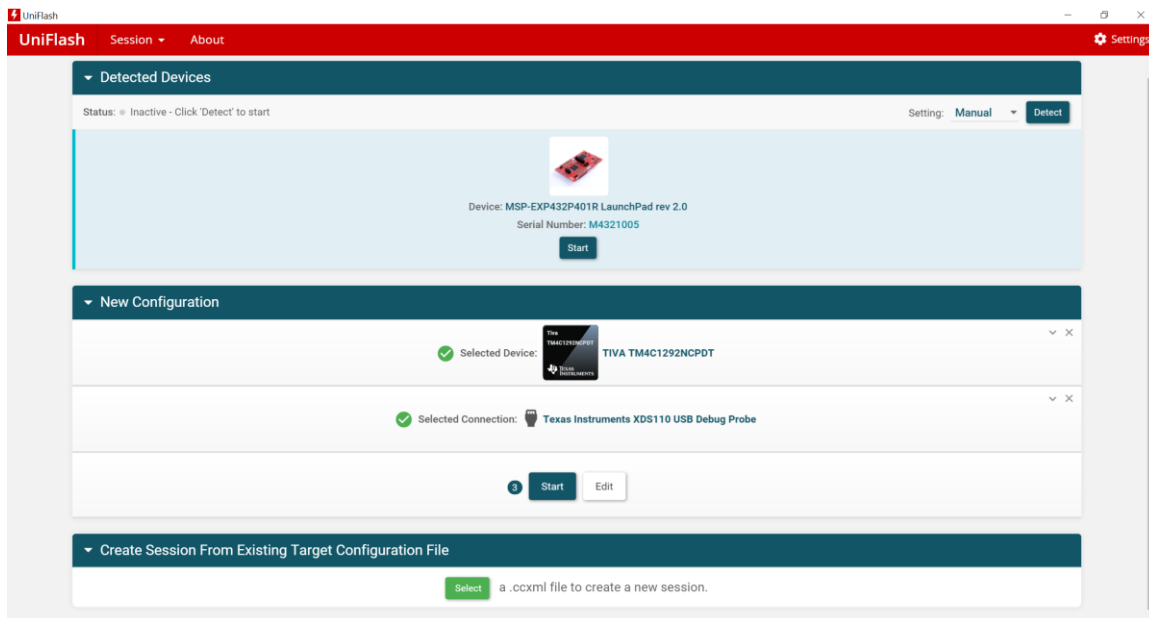

Figure 17. Device Configuration in UniFlash
1. After starting a new UniFlash session, the detected device will be an MSP432P401R LaunchPad if using the onboard XDS110-ET. A new configuration must be selected. The device is a *Tiva TM4C1292NCPDT*, and the connection is the *Texas Instruments XDS110 USB Debug Probe* (see Figure 17).